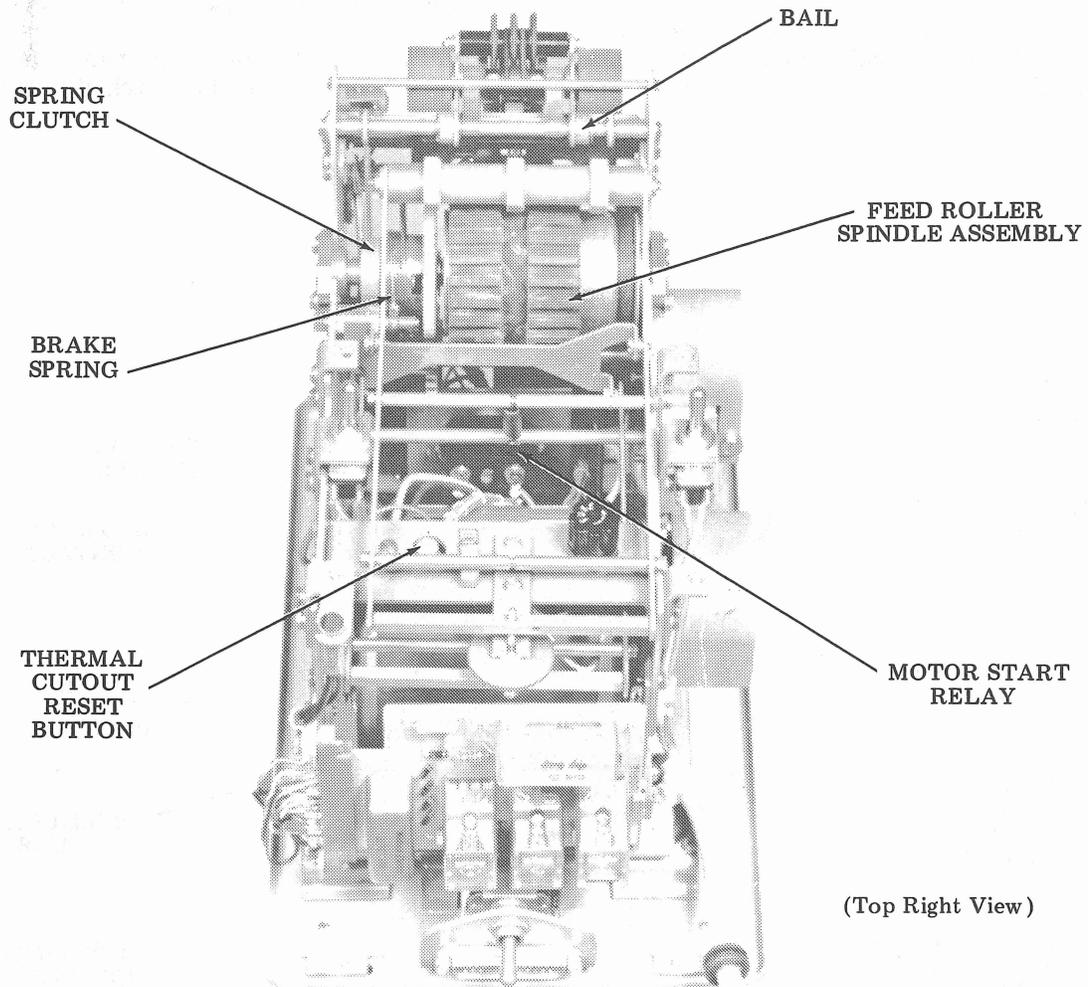
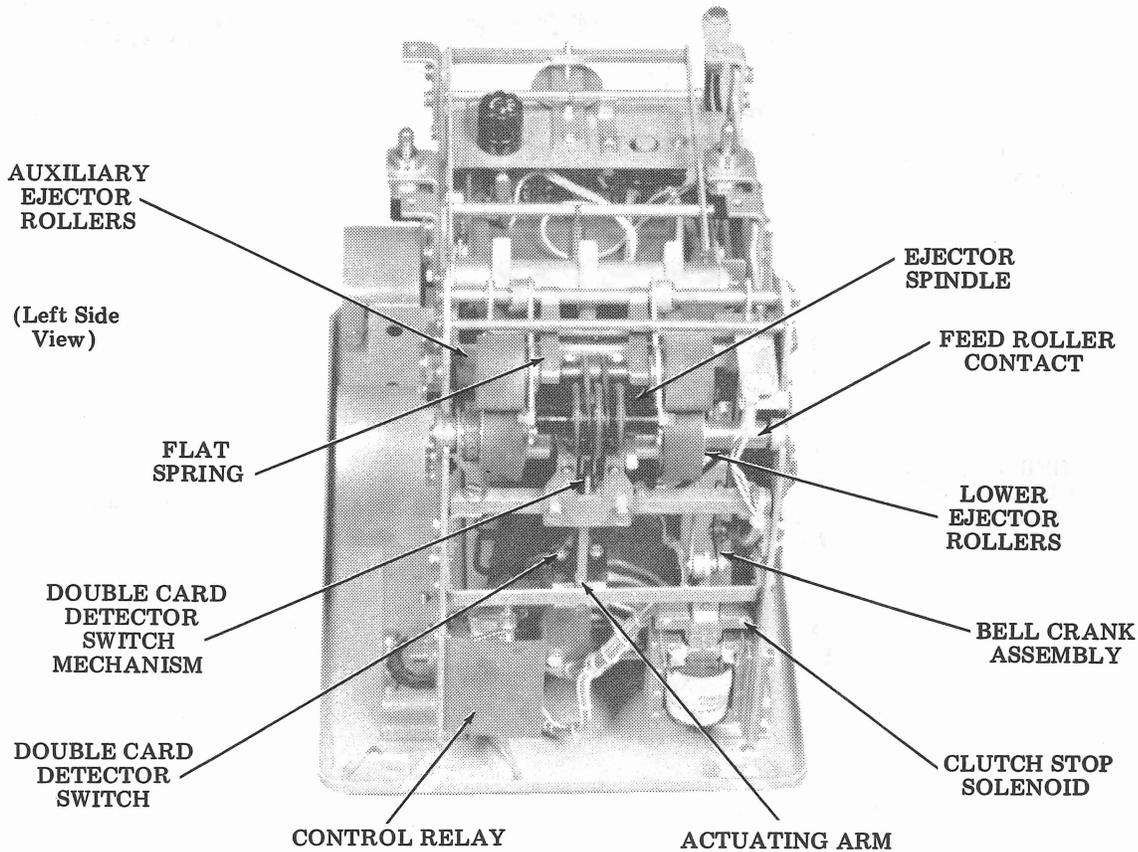

Figure 5 - 35 Edge Punched Card Feeder (Without Cover and Top Plate)
Figure 6 - 35 Edge Punched Card Feeder (Without Cover and Top Plate)
2.04 The feeder motor is protected with a thermal cutout device (Figure 5) which can be reset. The thermal cutout is located directly above the motor assembly and is accessible when the top plate is removed.
3.09 The feed roller spindle assembly may be considered the heart of the feeder. A spring clutch (Figure 5) is located at the end of the spindle and imparts motion to the feed roller. Surrounding the clutch spring is a sleeve which acts as a confiner for the spring, and as the braking surface for stopping the clutch.
3.10 The braking force for stopping the feed is supplied by a solenoid actuated brake spring (Figure 5). Actuating the clutch stop solenoid (Figure 6) causes the brake spring to tighten around the clutch spring confiner. By braking the confiner, the clutch spring is expanded and the drive gear arbor at the front of the clutch rides inside the spring causing the feed to stop.
3.12 The purpose of the ejector spindle (Figure 6) is to effect full insertion of the card into the reader. The ejector spindle is driven by the feed roller through an 80-tooth timing belt. The drive sprockets are arranged so that the ejector spindle rotates at a speed which is slightly faster than the feed roller. This speed difference produces a desirable spacing between the card being inserted and the card being separated from the card stack.
3.13 The auxiliary (upper) ejector rollers idle against the driven lower ejector rollers (Figure 6). Pressure against the auxiliary rollers is provided by a flat spring (Figure 6). An additional roller, mounted on the same arm and connected to the auxiliary rollers by means of drive belts, assures that 7-inch cards are fully inserted into the card reader. A bail (Figure 5) and bell crank (Figure 6) connected to the clutch stop solenoid lifts the auxiliary rollers at the same time the feed roller clutch is being disengaged. Lifting the auxiliary rollers frees the card of any pressure or drag from the feeder. This allows the card reader to feed the card without placing undue strain on the feed holes.
3.16 The internal controls consist of the double card detector switch, the feed roller contact Q, the control relay R and the clutch stop solenoid (Figure 6).
3.33 In the event that the feed rollers mechanism strips more than one card at a time, the detector switch actuating arm (Figure 6) will pivot and operate the double card detector switch A. Switch A provides a normally closed contact in series with the coil of feeder control relay R. When the feeder control relay R disengages, the clutch stop solenoid will disengage the feed roller clutch and feeding will stop. The FEED CARDS - STOP/TAPE switch F should then be placed in the STOP/TAPE position by the operator to keep the feeder control relay R energized until the double card condition can be corrected.